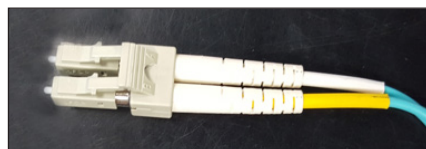

Figure 25: Fiber Cable
2. Route the field fiber cable (from the control location) through the signal entrance, then terminate. Refer to **Figure 25**.